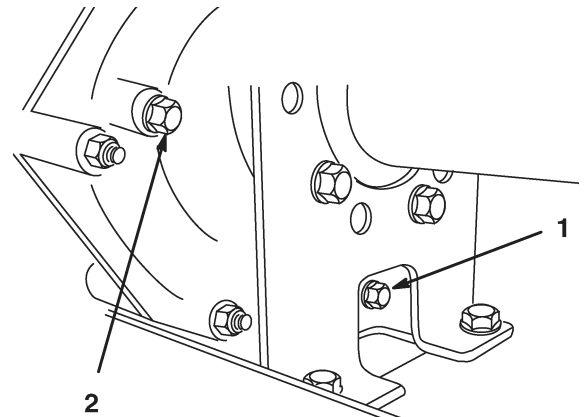
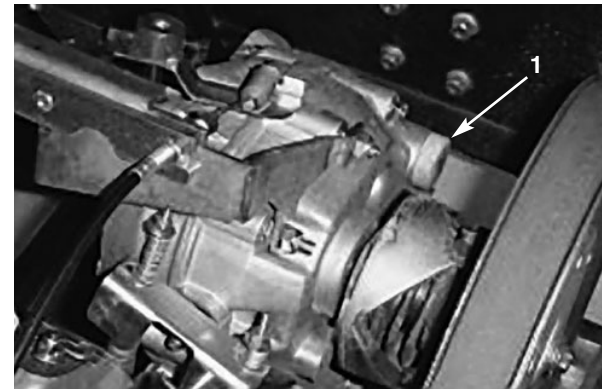

Figure 30
Figure 31
3. Fill the reservoir (Fig. 31) with approximately 1-1/2 qt. (1.4 liters) of SAE 10W30 motor oil or until the oil level is at the bottom of the level indicator hole (Fig. 30).
2. Remove the drain plug from the right side of the reservoir (Fig. 30) and let the fluid flow into a drain pan. Install and tighten the plug when the fluid stops draining.